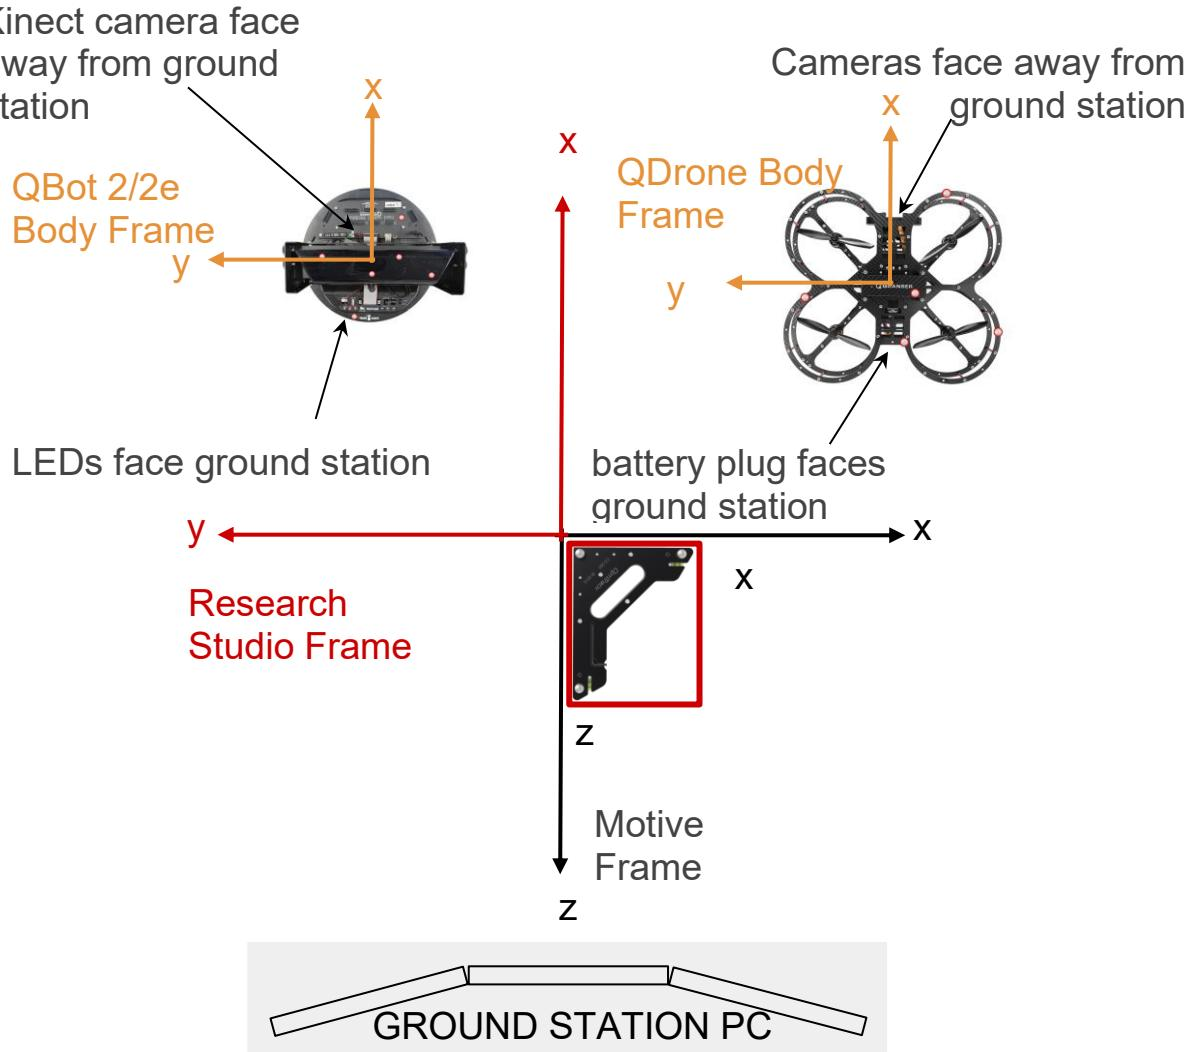
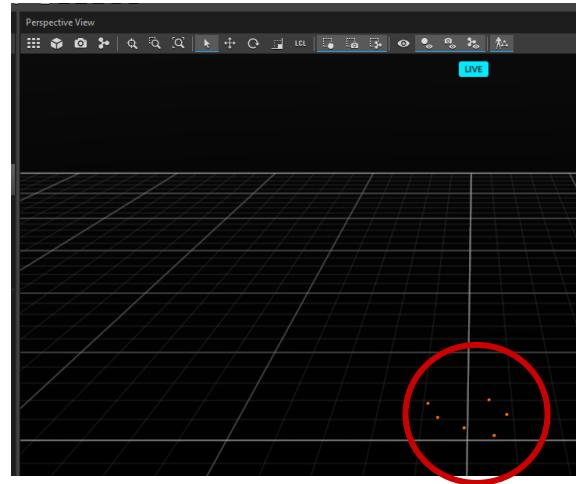

Figure 1. Vehicle placement orientation in workspace when defining rigid bodies in Motive
Figure 3: Perspective view in Motive 2.0.1
Note: When a vehicle's rigid body is defined in Motive, it identifies the vehicle's yaw reading as 0 the way it is placed. Ensure that you place the QDrone 1/2/QBot 2 in the workspace oriented as shown in Figure 1 when defining the rigid bodies. This means **always ensuring the vehicle's camera is pointed away from the ground control station PC**. This will provide consistency in measurement throughout the demo models and controllers provided with the **Autonomous Vehicles Research Studio**.
- Place the vehicle in the workspace according to the frame guidelines in Figure 1 (Camera of the vehicle towards the back of the room away from the ground station PC). Motive should display the markers picked up by the cameras in the **Perspective View**, (Figure 3).